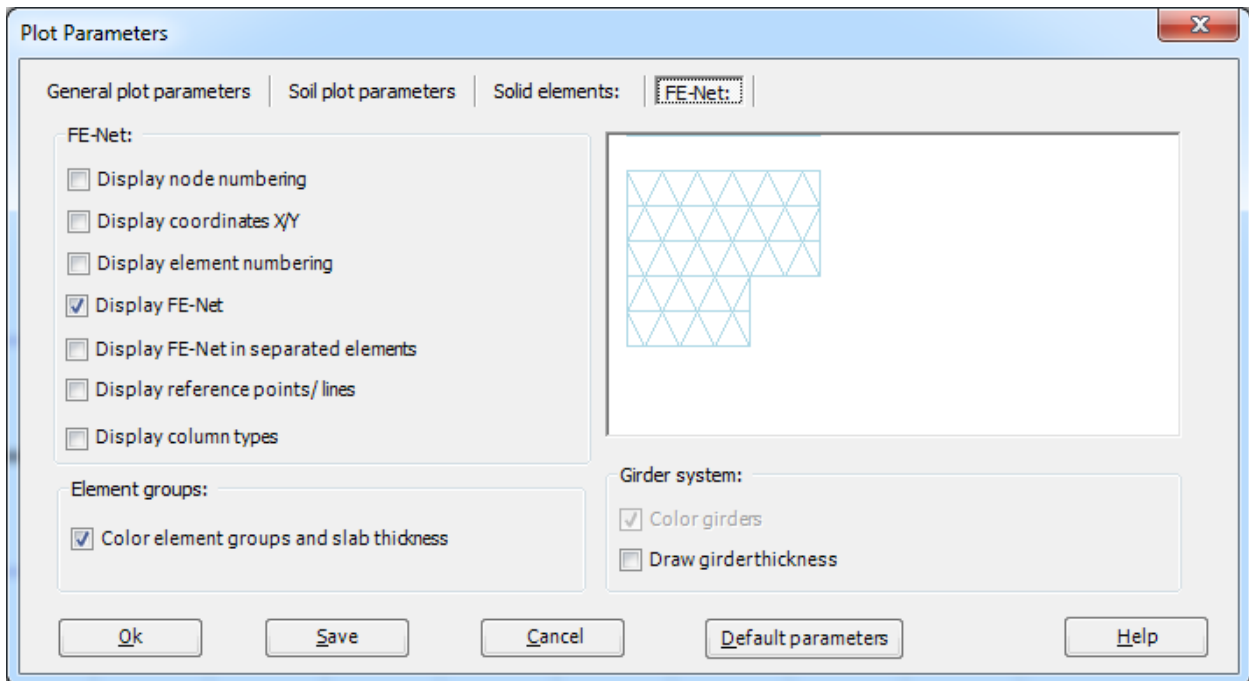

Figure 8.19 "Plot Parameters" dialog box
- Choose "Plot Parameters" command from "Setting" Tab. The "Plot Parameters" dialog box in Figure 8.19 appears